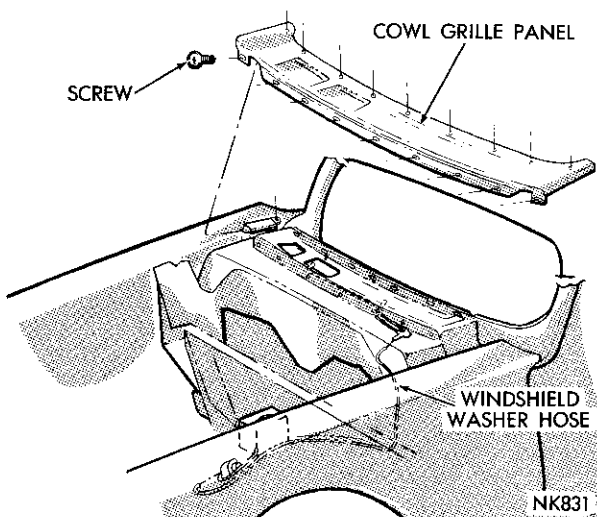

Fig. 119—Cowl Grille Panel
(2) Remove the windshield wiper arms and blades.
(3) Remove the outside windshield mouldings and the inside garnish mouldings.
(4) Remove the cowl grille panel (Fig. 119).
(5) Using a fibre wedge, loosen the weatherstrip from the fence at the top and sides on the inside and outside areas.
(6) With an assistant supporting the glass on the outside, exert hand pressure on the glass at one of the lower corners to force the glass and weatherstrip off of the fence and seal.
(7) Remove the glass and weatherstrip from the opening.
(8) Inspect the polyethylene seal on the windshield opening and replace if damaged.
(9) Inspect the fence area for burrs or misalignment and correct as necessary.
(10) Use extreme care and remove the weatherstrip from the glass.
(11) If the original weatherstrip is to be reinstalled, remove all cement and sealer from the weatherstrip.
(12) Remove all sealers from the windshield glass.
- (7) Remove all excess sealers and cements from the glass.
- (8) Water test the windshield area.
- (9) Install the cowl grille panel (Fig. 119).
- (10) Install the windshield outside mouldings, wiper arms and blades and inside garnish mouldings.
- (11) Remove the protective covering from the cowl, hood and fender areas.